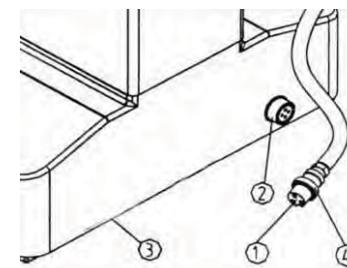

Fig.10
(1) Make sure the switch is in the "O" (OFF) state.
(2) Insert the light box power cable connector ① into the gap of the microscope connector ② and align it with the gap of the microscope connector ②. After the connector ② is inserted to the end, lock the nut ④. (See Fig.10)
(3) Plug one end of the 12V power cord into the power socket ③ of the microscope.
(4) Plug the other end of the power cord into the power socket.